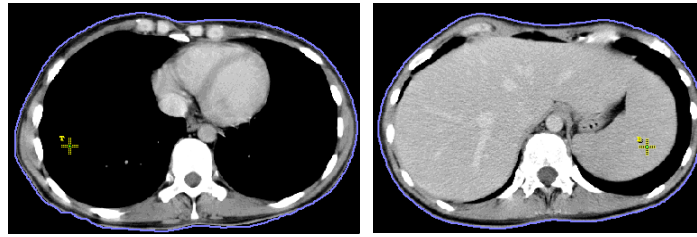

Figure 249 – Defining the top and bottom point of the bolus
- The top point and the bottom point (the cursor is marked as **T** and **B** respectively) can be selected in any image in the current view. It is not necessary that these points are located on the contour line but simply in a view displaying the same image series (see Figure 249). The cursor will not be displayed as a green tick for **T** and **B**.